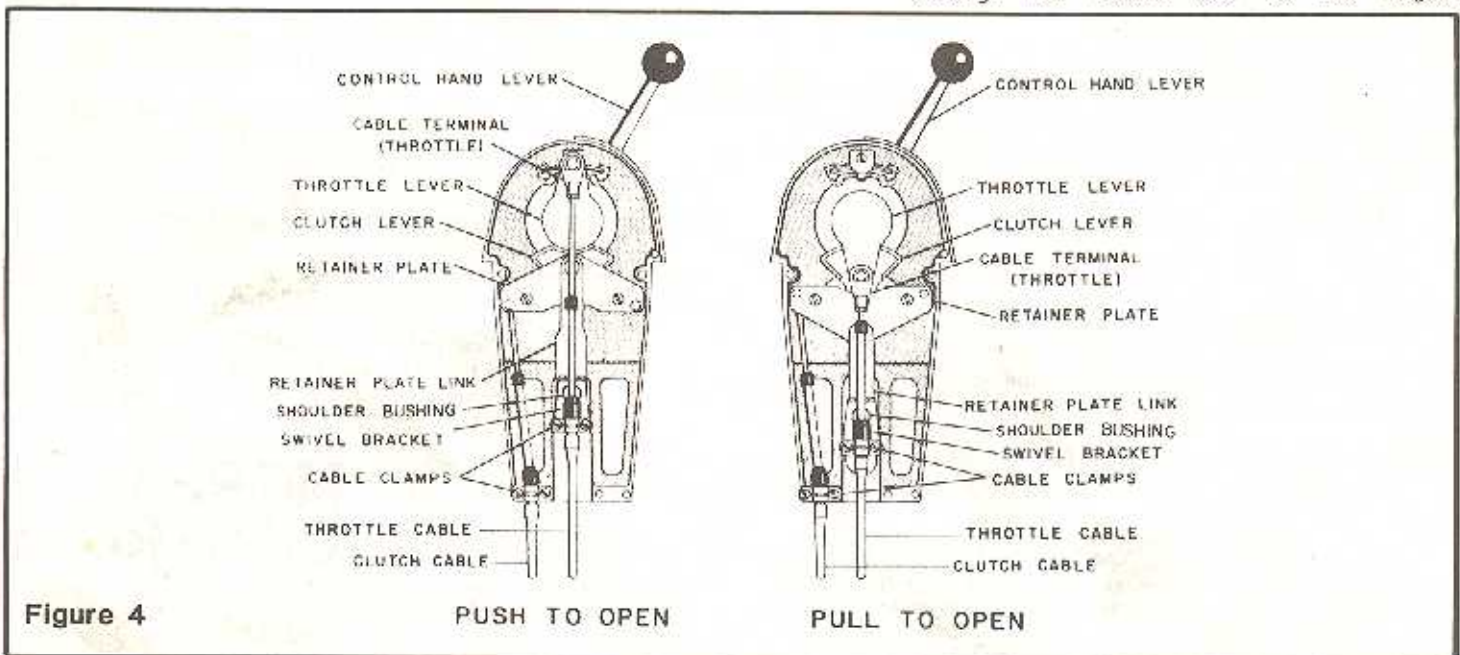

Figure 4
Be sure the control head is correctly assembled for PUSH-TO-OPEN or PULL-TO-OPEN throttle operation as required (see Figure 4). If necessary, modify as follows:
- (a) Remove screws (30) and lockwashers (9) from retainer plate (27). Also remove screw (18), shoulder bushing (29), collar (24) and stopnut (23) from swivel bracket (28).
- (b) Rotate retainer plate 180° so V-point is Down for Pull or Up for Push. Then replace screws (30) and lockwashers (9). Insert screw, shoulder bushing and swivel bracket into retainer plate link (27) hole and housing slot. Replace collar and stopnut.
- (c) Move hand lever from neutral and loosen setscrew (19). Return hand lever to neutral and remove from control.
- (d) Press spring-loaded throttle lever toward outside of housing until pin (15) is clear of keyway. Rotate throttle lever 180° until pin snaps back into keyway. Replace control hand lever and tighten setscrew.
1. Screw throttle terminal (4) onto cable rod until 1/8" of the rod shows through terminal. Hold terminal securely to prevent it from turning and tighten cable nut against terminal.
2. Apply lubricant and place terminal (4), flatwasher (24), and retaining ring (3) on throttle arm (5).
3. Securely fasten throttle cable to swivel bracket (28), using cable clamp (25) and screws (31). Be sure key on underside of cable clamp is seated in groove of cable hub.
4. Control should appear as shown in Figure 4 for proper throttle operation.